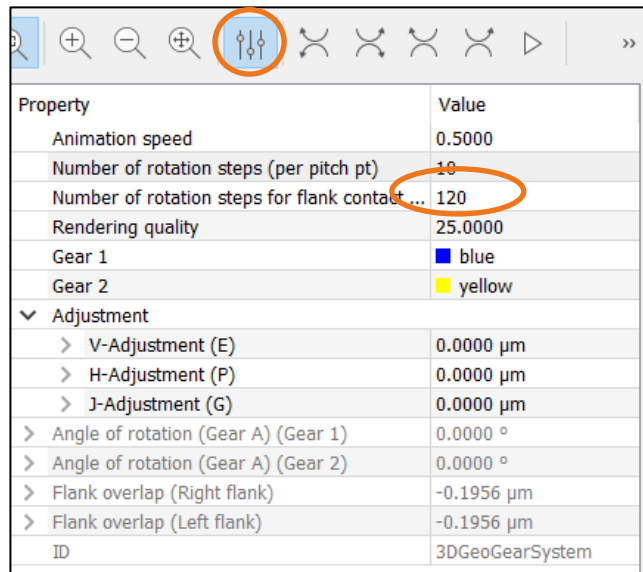

Figure 34. Typical contact pattern with tester
- The contact lines on the drive side are represented by the pinion being rotated towards the bevel gear with . To achieve a realistic comparison, make sure that the **amount of contact is not too great**. For example, rolling the bevel gear set over a tester should also only remove a small amount of contact color (see Figure 34).